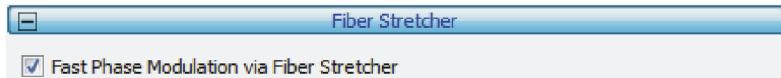

Figure 42 Fiber Stretcher folder
9. Activate the **Fast phase modulation via fiber stretcher** checkbox in the TOPAS TeraScan Control software in the **Fiber Stretcher** folder (see Figure 42).